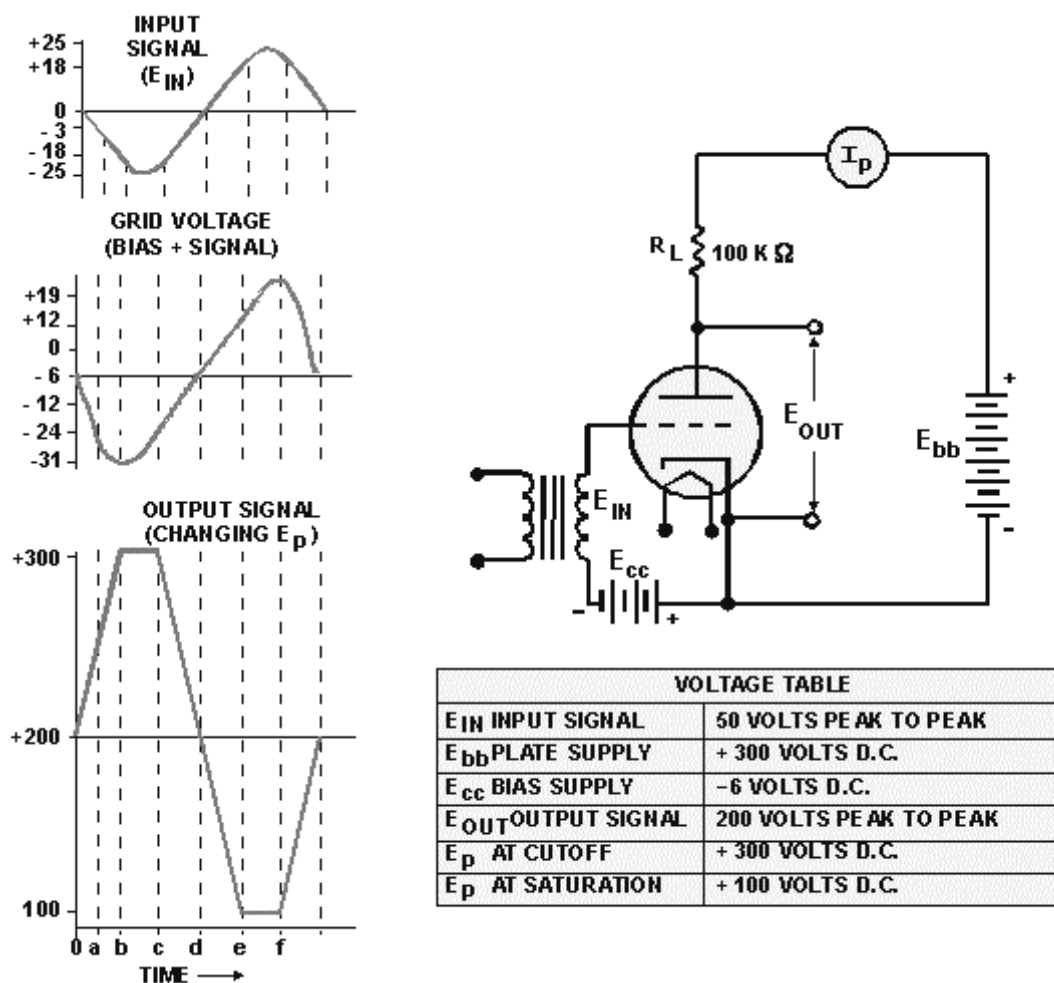

Figure 1-20.—Overdriven triode.
Look at time zero (0) in the waveforms of figure 1-20. The input signal ( $E_{in}$ ) is at zero volts. Grid voltage equals the bias voltage (-6 volts), and one milliampere of current is flowing through the tube (quiescent state). Plate voltage ( $E_p$ ) is 200 volts.
During the next cycle, the same process will be repeated, with  $C_c$  charging on the positive alternation and discharging a lesser amount during the negative alternation. Therefore, at the end of the second cycle,  $C_c$  will have an even larger negative charge than it did after the first cycle. You might think that the charge on  $C_c$  will continue to increase until the tube is forced into cutoff. This is not the case. As the negative charge on the right-hand plate of  $C_c$  forces the grid more negative, electrostatic attraction between the grid and cathode decreases. This, in effect, increases the resistance ( $rgk$ ) between the cathode and the grid, until  $rgk$  becomes, in effect, the same size as  $R_g$ . At this point, charge and discharge of  $C_c$  will equal one another and the grid will remain at some negative, steady voltage. What has happened in this circuit is that  $C_c$  and  $R_g$ , through the use of unequal charge and discharge paths, have acted to change the ac input to a negative dc voltage. The extent of the bias on the grid will depend on three things: the amplitude of the input, the frequency of the input, and the size of  $R_g$  and  $C_c$ . This type of biasing has the advantage of being directly related to the amplitude of the input signal. If the amplitude increases, biasing increases in step with it. The main limiting factor is the amount of distortion that you may be willing to tolerate. Distortion occurs during the positive alternation when the grid draws current. Current drawn from the electron stream by the grid never reaches the plate; therefore the negative-going output is *not* a faithful reproduction of the input, while the positive-going output (during the negative input cycle) *will be* a faithful reproduction of the input. This is similar to the situation shown in the flattopped portion of the output signal in figure 1-20.